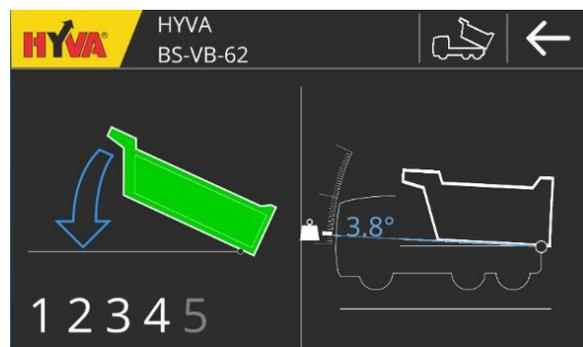

FIGURE 14 PAYLOAD CALIBRATION - STEP 4
Step 4 (Figure 14): lower the body back on the chassis.